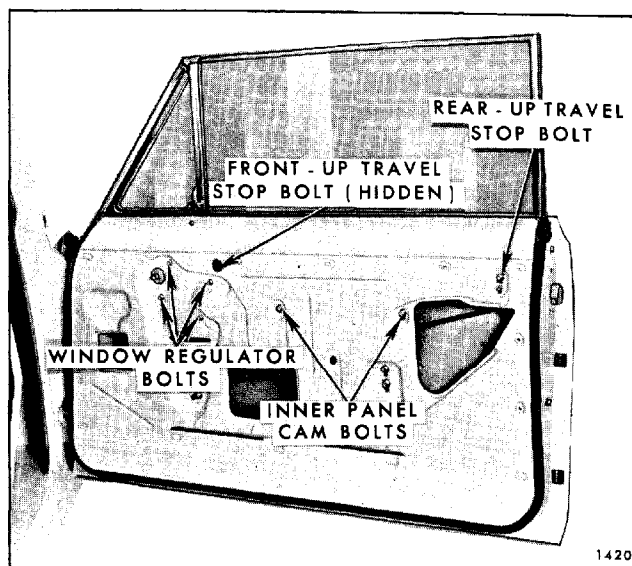

Fig. 7-90—Front Door Window Hardware Attachments -
2. Lower door window and remove front and rear up-travel stops (see Fig. 7-90).